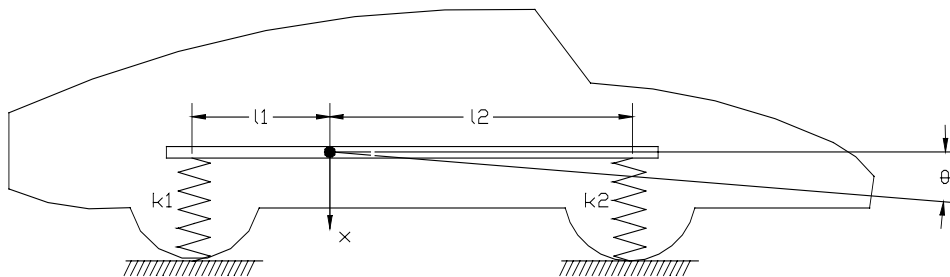

Figure 1 A planar model of an automotive
2. A planar model of an automotive suspension is shown in Figure 1. The position of the center of mass, x , is zero when the springs are not deformed. The pitch motion, θ , is positive in the clockwise direction and is zero in the undeformed spring position. You can forget about gravity in the following questions since its effect only adds constant offset displacements to the equilibrium positions.